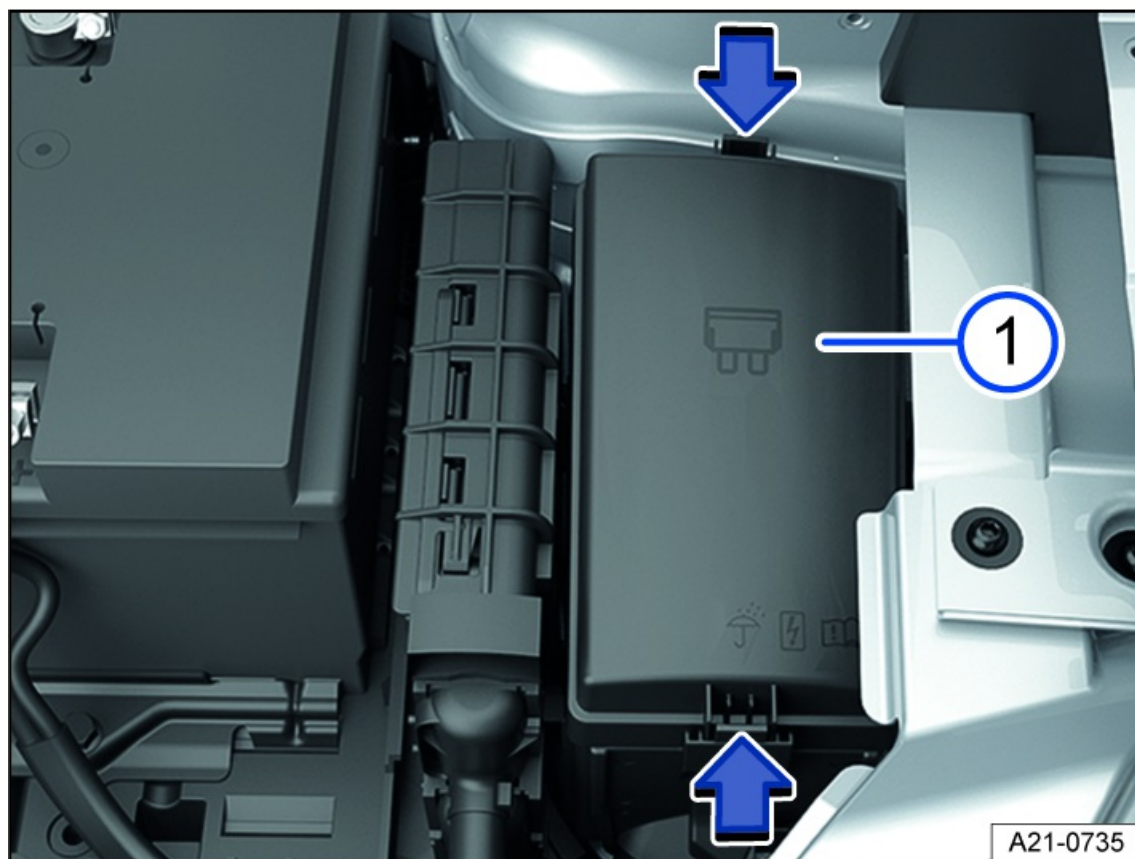

Fig. 143 In the engine compartment: Fuse box.
2. Press the catches in the direction of the arrow to unlock the fuse box cover *fig. 143* ①.